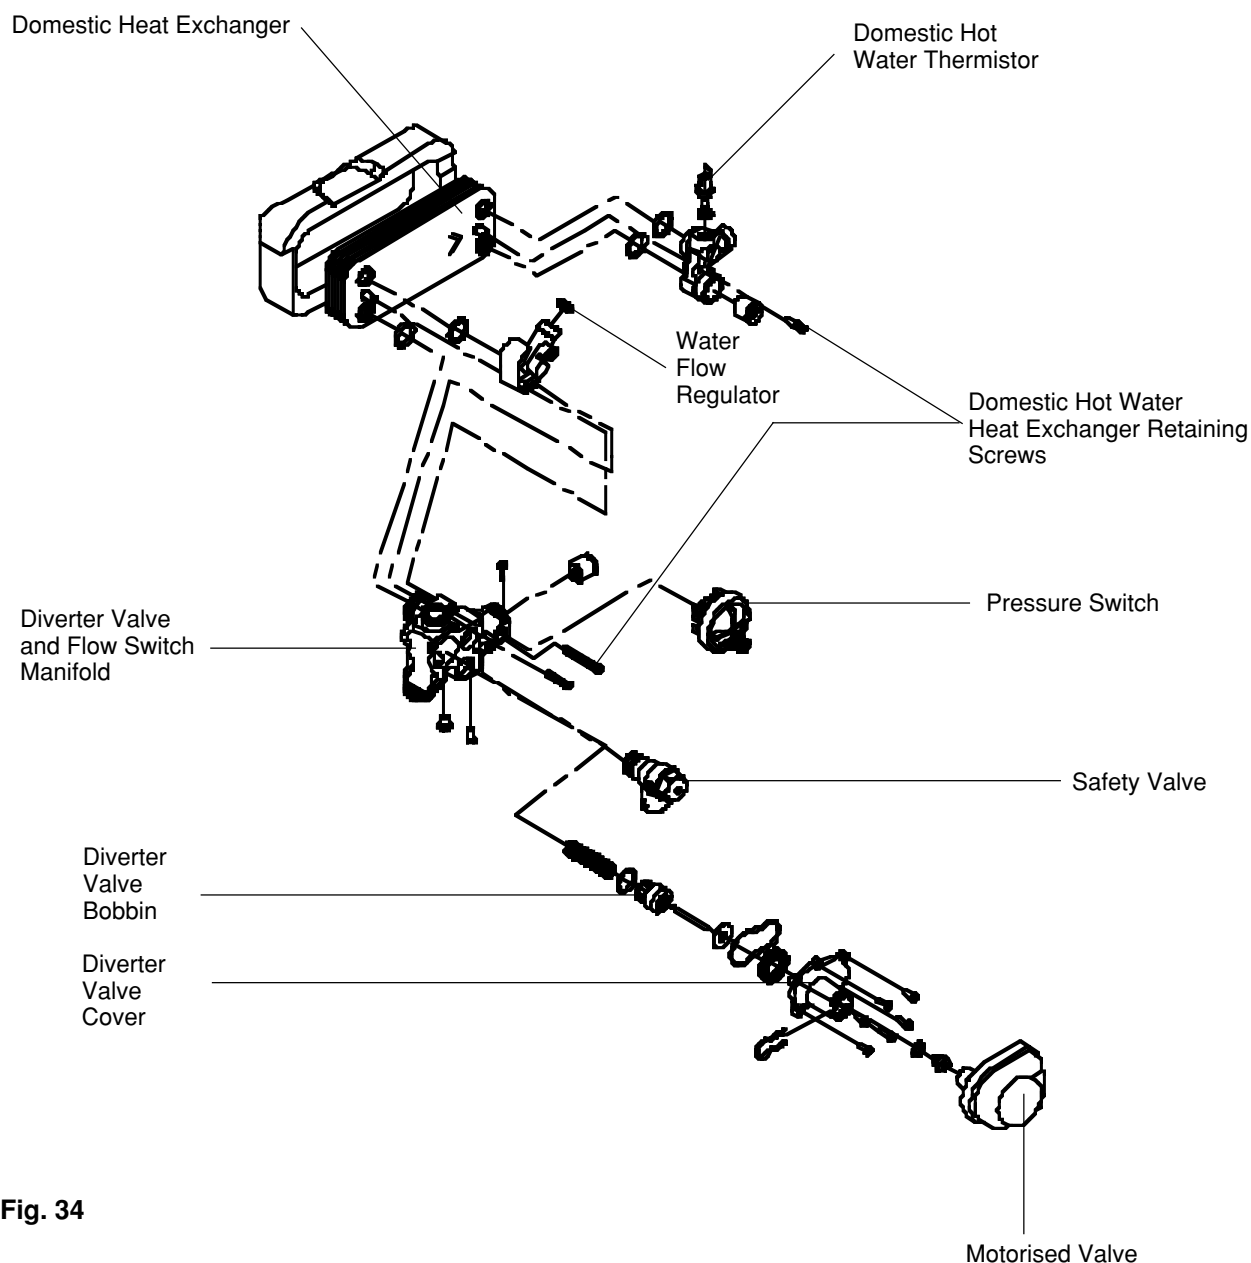

Fig. 34
- 8.16.12** Withdraw hydraulic group from appliance. See fig. 34 for further disassembly.